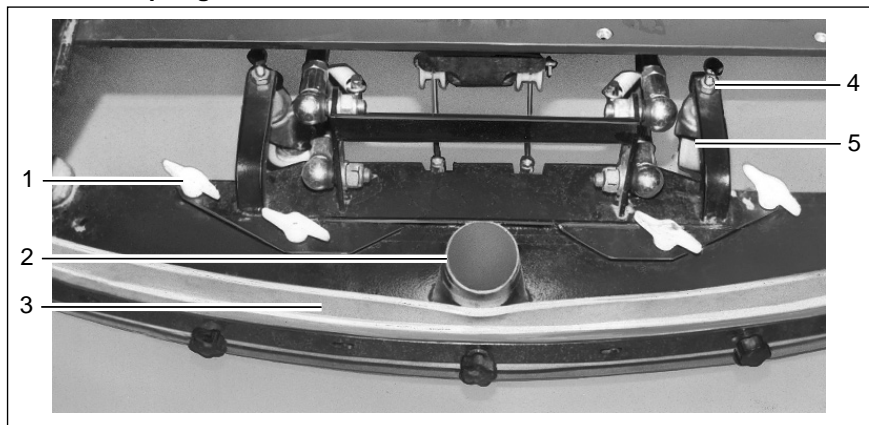

Fig. 10
5. Slide the squeegee from the rear under the lowered holding attachment and fix the squeegee to it with the four wing nuts (Fig. 10/1).
6. Attach the suction hose to the connection nozzle (Fig. 10/2) of the squeegee.
The squeegee must be set up on a level floor according to the conditions in which it is to be used. The squeegee must stand vertically on the floor (adjusted at the factory). The sealing strip (Fig. 10/3) should bend slightly to the rear when the vehicle is in operation. Support rollers (Fig. 10/5) limit its movement toward the floor. These support rollers must be adjusted in order to raise the contact surface of the squeegee:
- Loosen the counter nuts (Fig. 10/4) and raise the support rollers on the left and right evenly (turn screw counterclockwise and lock again).